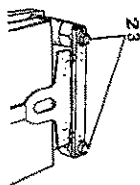

Fig. 16
Remove two (23) NUTS by (806) (7mm spanner) as shown in Fig. 16 and detach (24) FLEXIBLE BEARING ASSY.